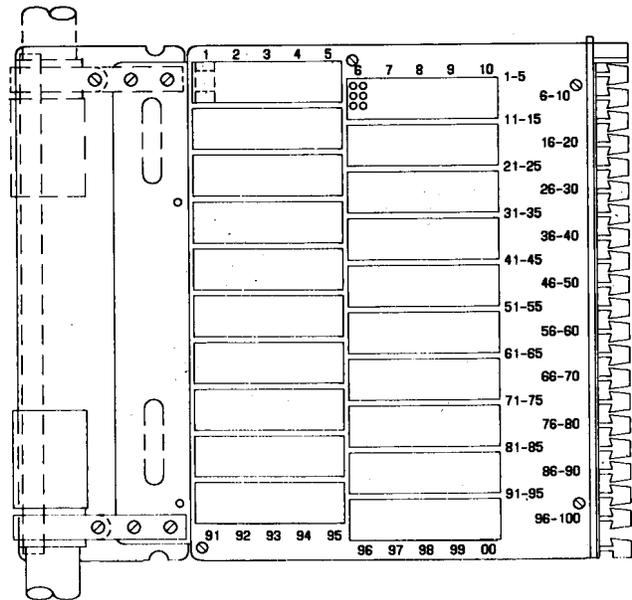

Fig. 29—310A1-100, B1-50, B1-100, C1-100, D1-50, D1-100, or E1-100 Connector
**2.21 310A1-100, B1-50, B1-100, C1-100, D1-50, D1-100 and E1-100:** The 310-type are high-density main distributing frame connectors (Fig. 29).